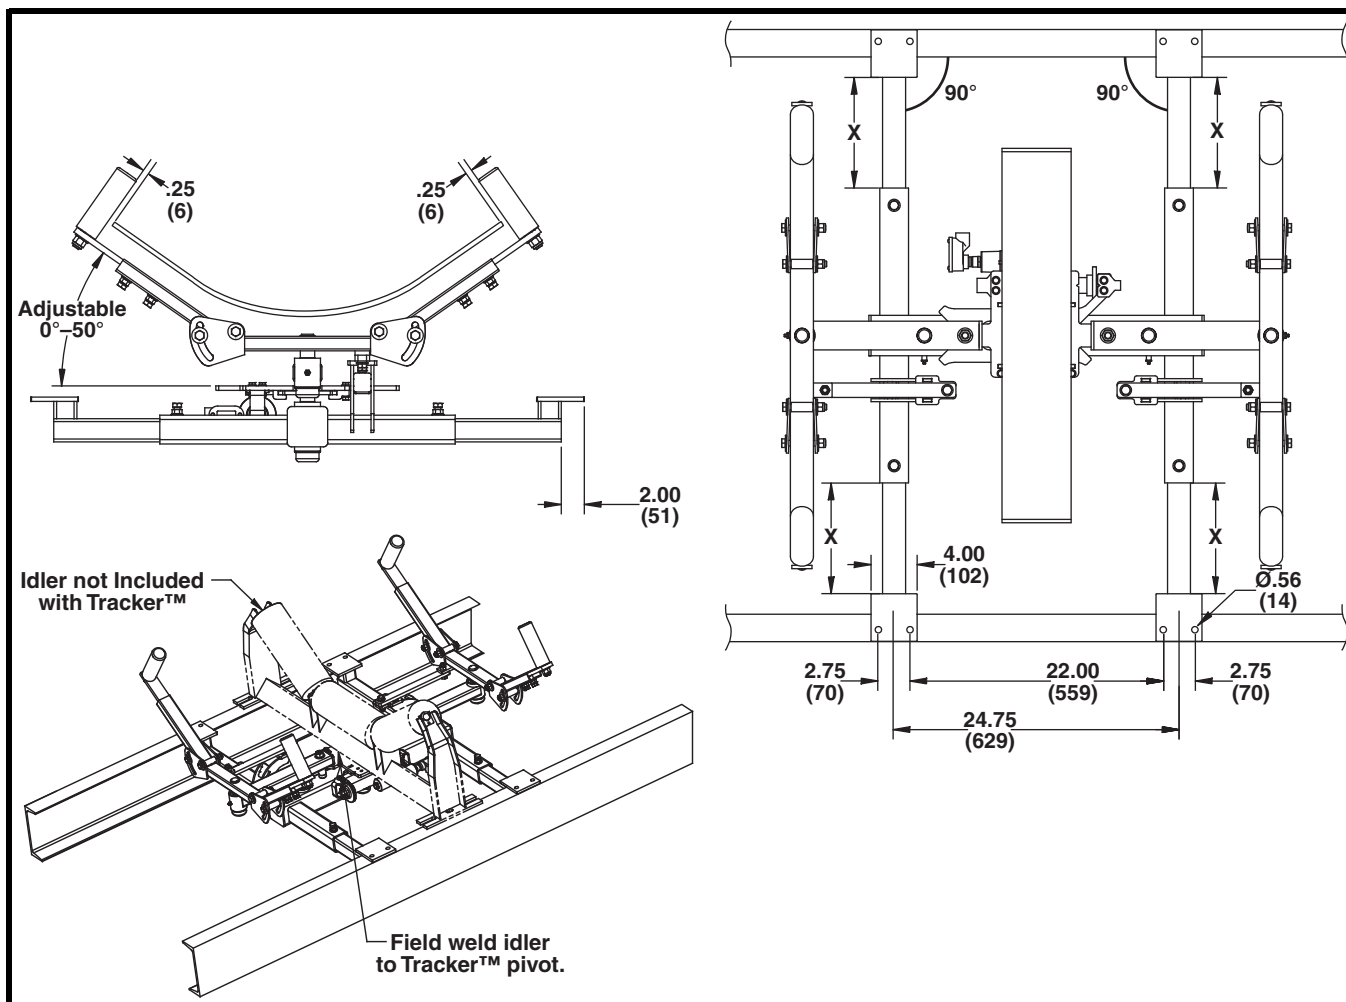

Figure 3. Mounting Dimensions–Martin® Tracker™ Reversing (Upper Unit)
7. Mark location of support arms (B) on stringers (A). See Figure 3 or 4 for mounting dimensions.
9. Mount support arms (B) on farside stringer using cap screws, flat washers, compression washers, and nuts (D).
11. Slide operator side support arms into Martin® Tracker™ Reversing assembly and fasten to mounting brackets using cap screws, flat washers, compression washers, and nuts (D).